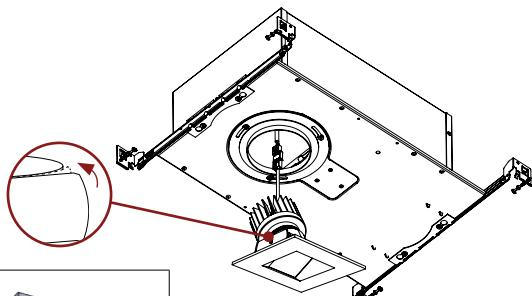

Figure 1
1. To change optic to turn optic/holder counterclockwise to unlock, or proceed to step 4. (Figure 1)
3. Housing's junction box must be pointing towards the focal point. (Figure 1)